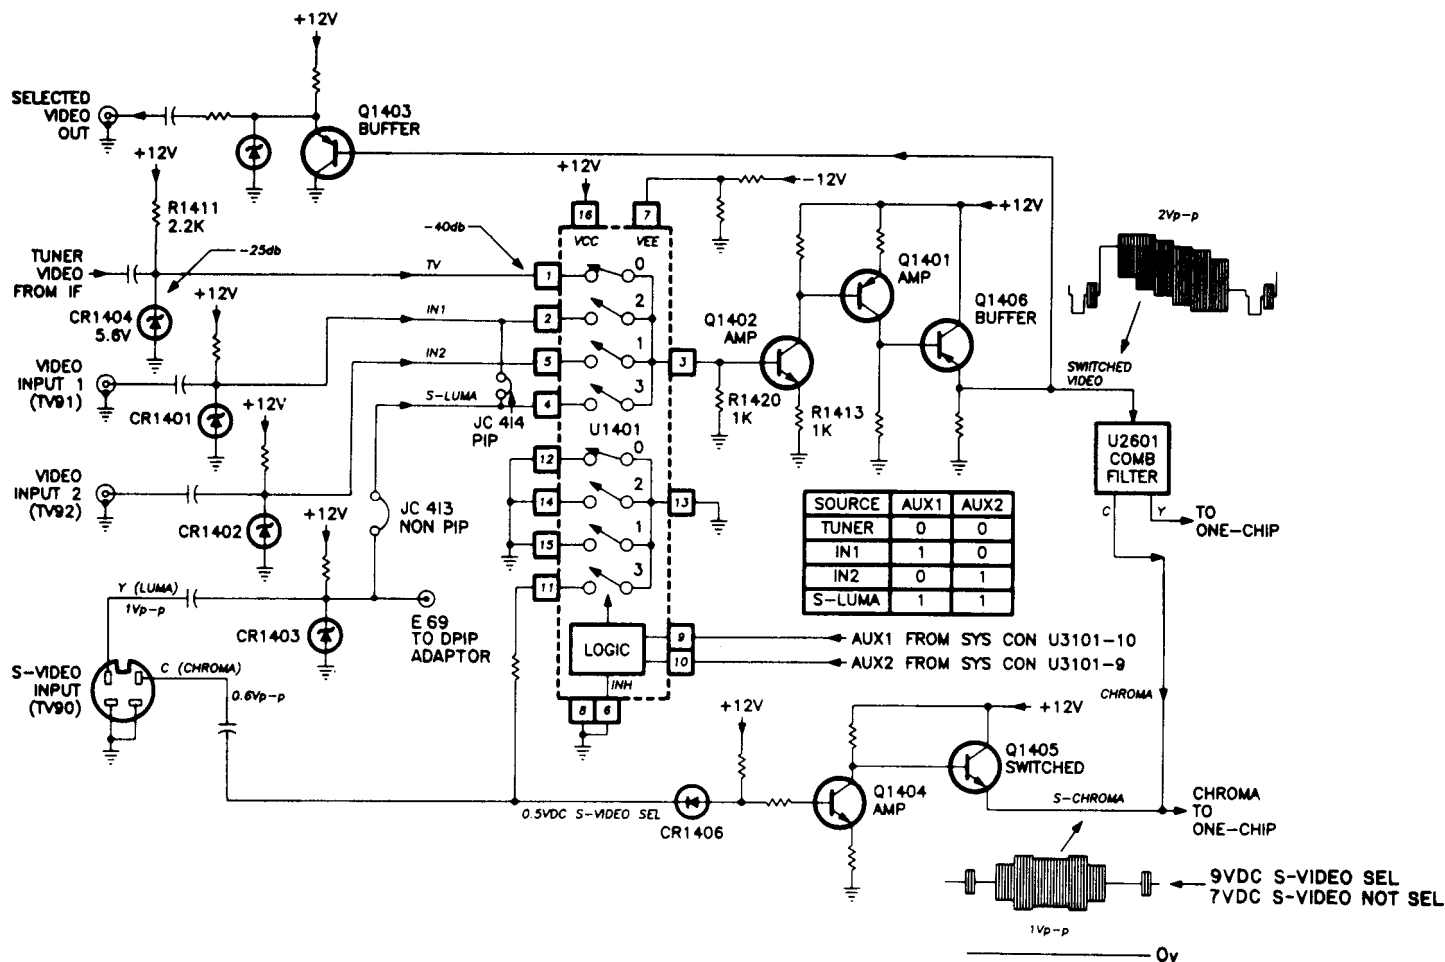

Figure 23, Video Input Selection (Non-PIP)
1. Check for composite video at the emitter of Q1406. If present, the problem must lie beyond this point. If not present, check for video at input of selection IC. If present, check logic levels at pins 9 and 10 according to chart in figure 23. If OK, check for shorted zener diodes at inputs of U1401.